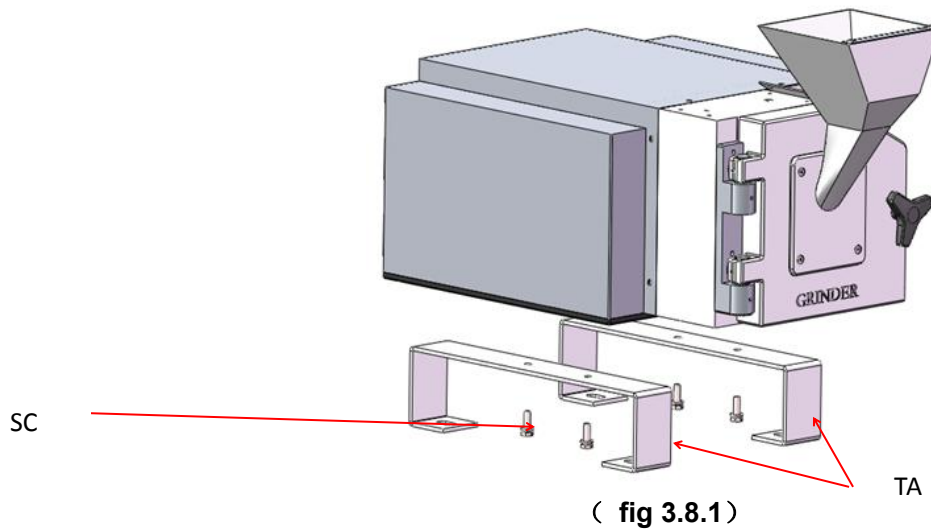

Fig 3.7.4
- The final installed base frame BBS (Fig 3.7.4)